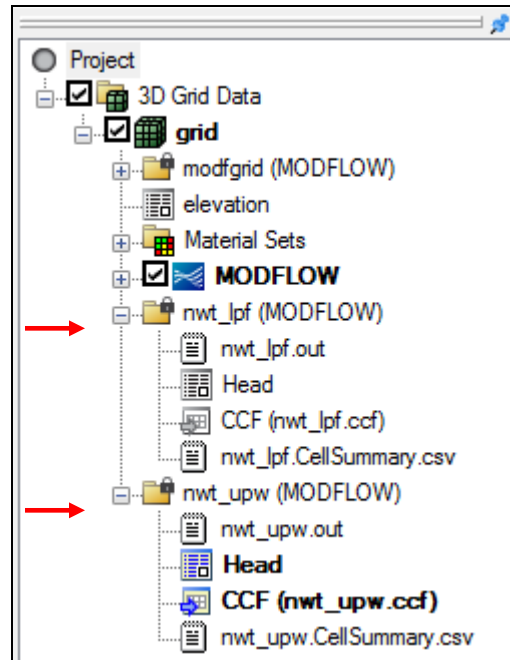

Figure 3 Project Explorer showing both solutions
4. Compare the solution generated with the LPF package and the one generated with the UPW package by clicking back and forth on the two solutions (“ nwt_lpf (MODFLOW)” and “ nwt_upw (MODFLOW)”) in the Project Explorer (red arrows in Figure 3). It may be necessary to expand the “ 3D Grid Data” folder and “ grid” item.